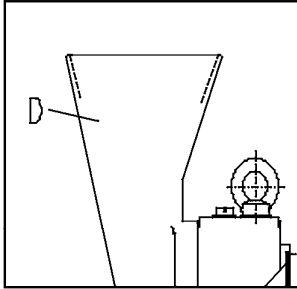

Fig.9
- * Feed material slowly into the filling funnel **D Fig. 9**